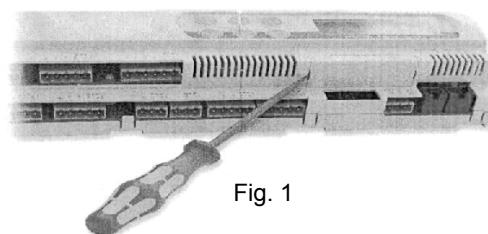

Fig. 1
- Switch off the pCO2 and remove the "expansion memory" cover with a screwdriver (see "Copy from pCO2 to the Software Key" on page 3-15/Fig. 1).
- Switch off the pCO2 and remove the "expansion memory" cover with a screwdriver (see Fig. 1).